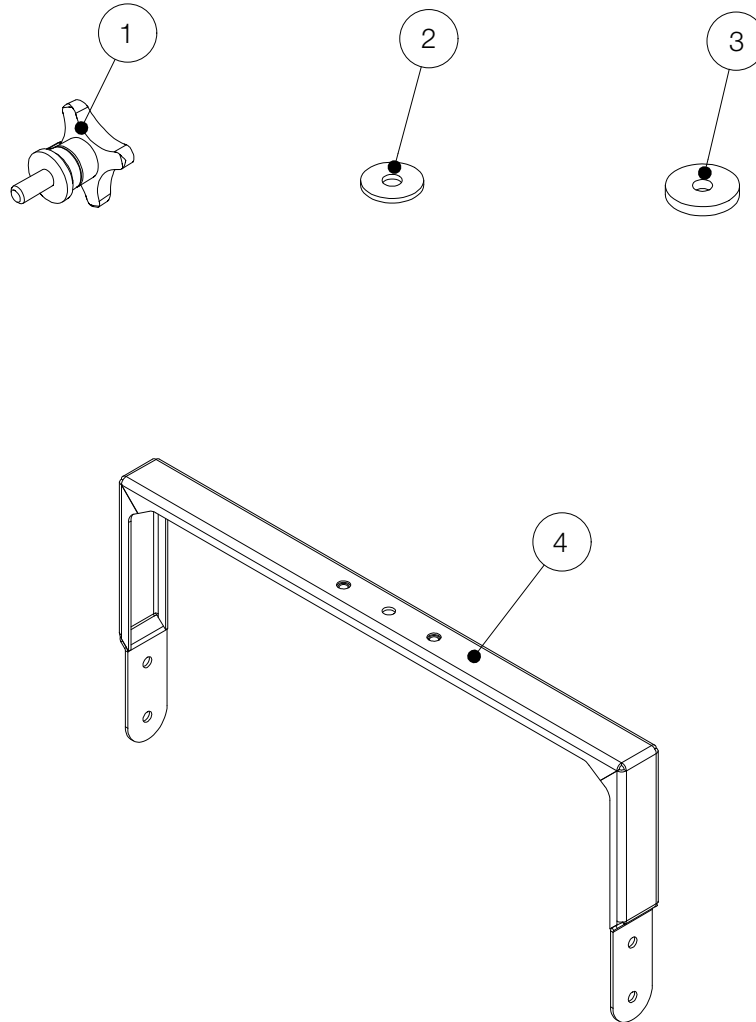

Figure 2.1 - Overview
Mount positions 1 to 3 (see figure 2.1) on both sides as shown in figure 4.3. Note that at pos.4 (see figure 2.1) one of the side holes is used.